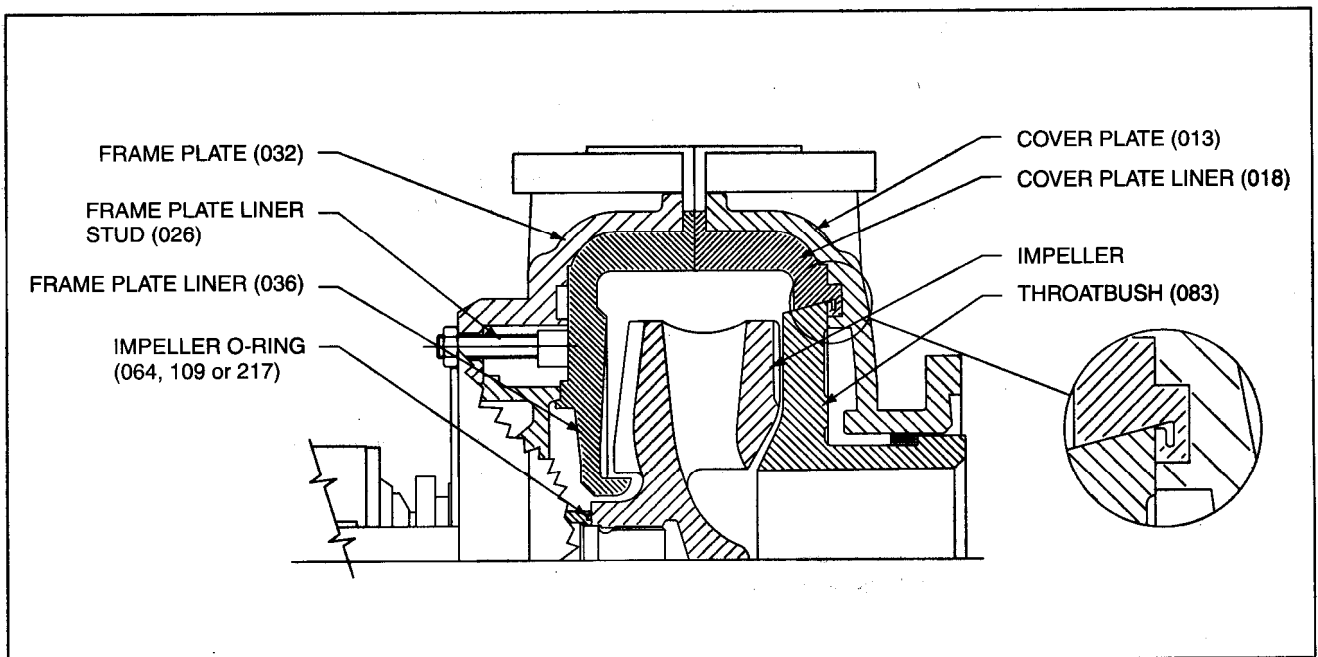

Figure 6-8 • Pump Assembly – Rubber Liners (3 Part)
3. Check CLAMP BOLTS (012) on side of base (see *Figure 6-8*) to ensure they are just tight enough to hold the bearing assembly horizontal, but not to lock it. Assuming the shaft is bare, fit SHAFT KEY (070) in keyway and bolt SHAFT WRENCH (306) onto the shaft. If the pump is installed, remove v-belts or separate coupling hubs.
- b. Obtain correct type of impeller as specified for particular pump application. **Note:** Elastomer impellers must be fitted with the impeller BOSS CAP (359). To keep it in position during assembly tape it to the impeller hub. Apply anti-seize lubricant to the thread. Lift the impeller with a rope hoist, and screw it onto shaft. Use a bar between vanes and hold while turning shaft to tighten impeller. Be careful not to damage various o-rings on the shaft during assembly.
4. Fit COVER PLATE LINER (018), THROATBUSH (083), and COTTERS (085) or STUD (026) as shown in Figure 6-8.